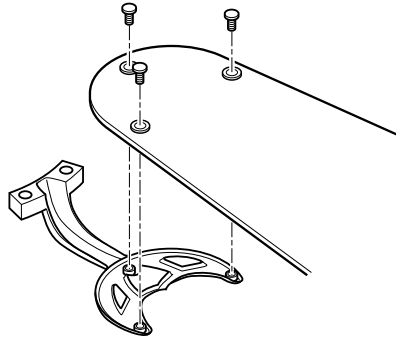

Figure 6b - Attaching Fan Blade to Blade Iron
2. Attach each blade to blade iron using three blade assembly screws as shown in Figure 6b.